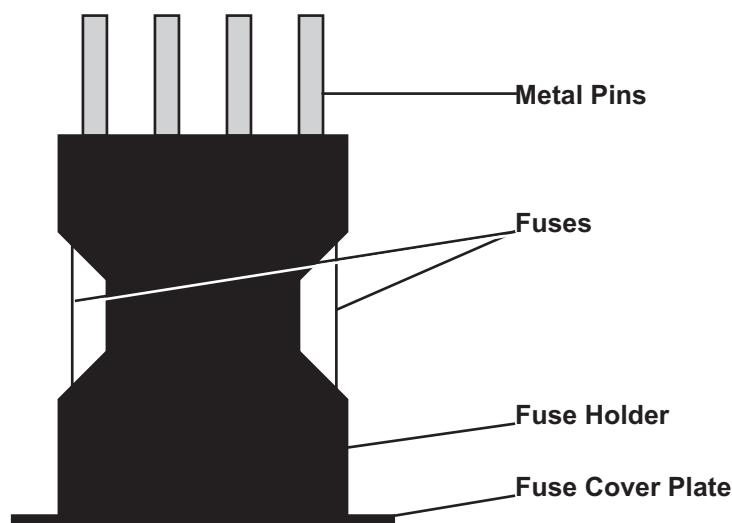

Figure 6-2. Schematic of fuse assembly
3. Remove the old fuses from the slots on either side of the fuse assembly. See Figure 6-2.